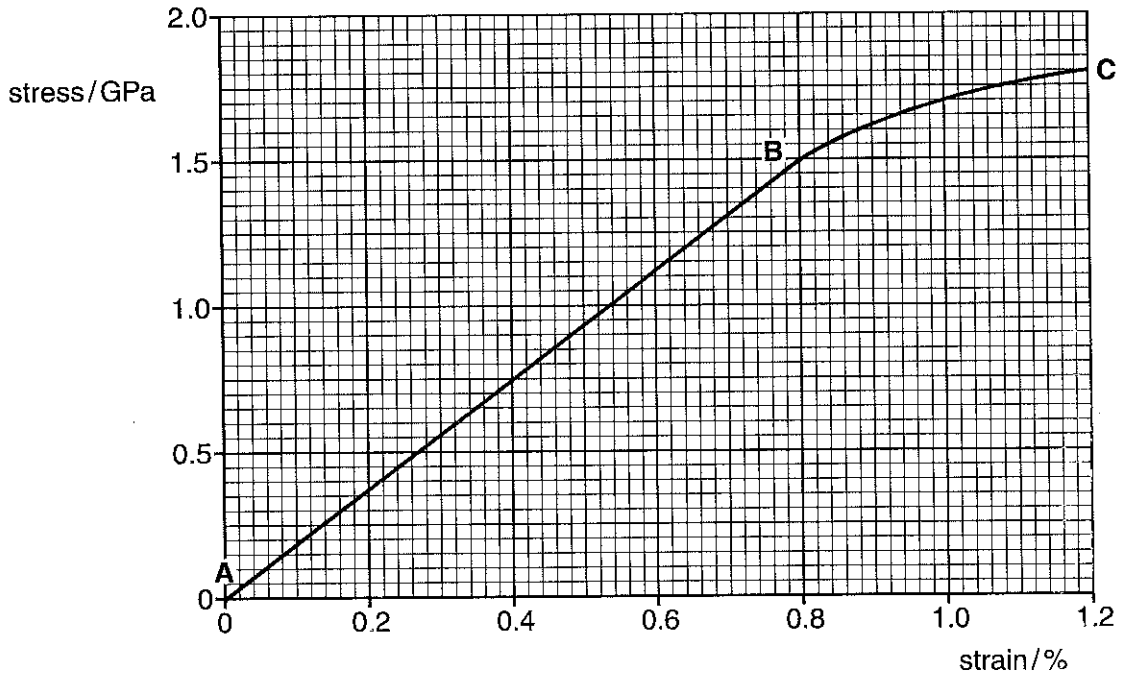

Fig. 8.1
- 8 (a) Fig. 8.1 shows the stress against strain graph obtained from a test on a sample of wire of a ductile material.
- (i) Use Fig. 8.1 to determine the Young modulus of the material.
- (ii) Use Fig. 8.1 to describe the behaviour of the material